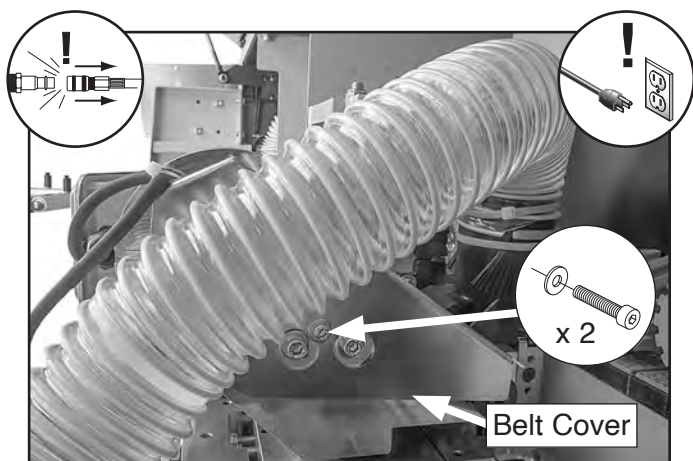

Figure 106. Location of belt cover cap screws.
4. Remove (2) M5-.8 x 12 cap screws with flat washers from end trimmer belt cover, then remove cover (see **Figure 106**).